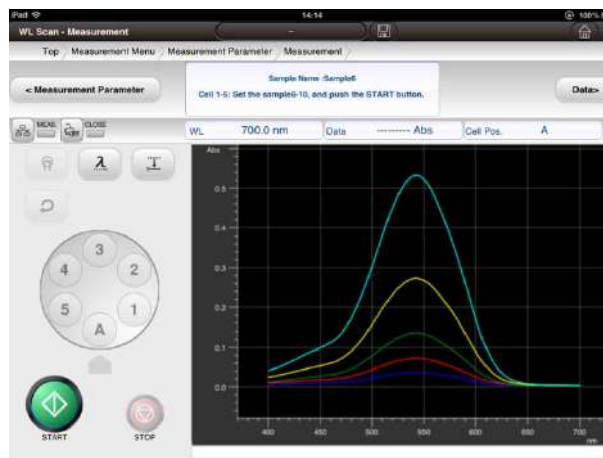

Fig. 4-81 Sample Setting Guidance Window
- (4) Set specimen 1 to 5 at Cell 1 to 5, respectively. When setting is completed, press  [start button] icon. This will start measurement sequentially from Sample 1.
- (5) When 6 or a larger number is set for "number of samples," the measurement results for Sample 1 to 5 will be shown overlapped as in Fig. 4-81. Set the next sample according to the guidance. When setting is completed, press  [start button] icon.